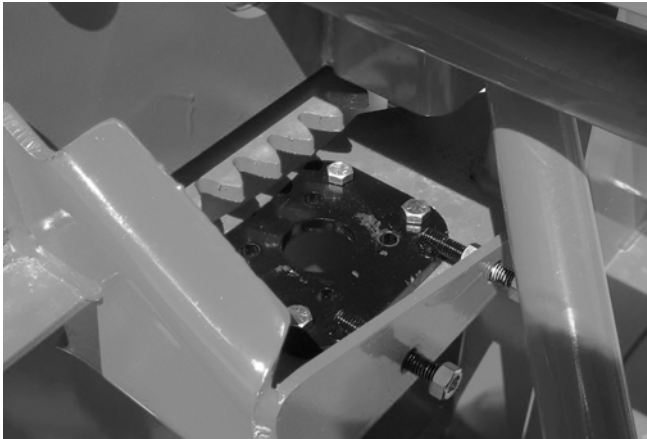

Figure 21
- 2) Install the mounting plate tightening the bolts lightly (Fig. 21).